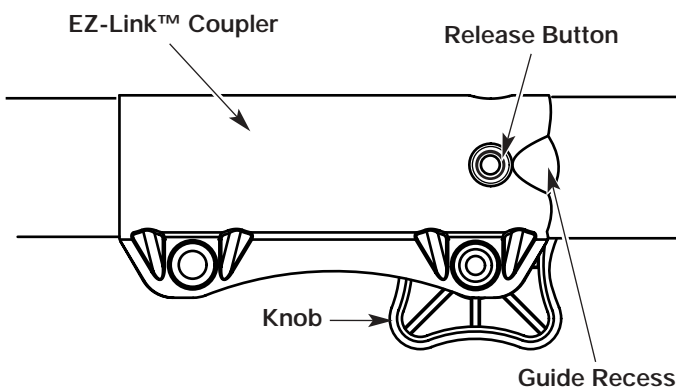

Fig. 9
1. Turn the knob counterclockwise to loosen (Fig. 9).
2. Press and hold the release button (Fig. 9).
1. Turn knob counterclockwise to loosen (Fig. 9).
NOTE: Aligning the release button with the guide recess will help installation (Fig. 9).
3. Turn the knob clockwise to tighten (Fig. 9).